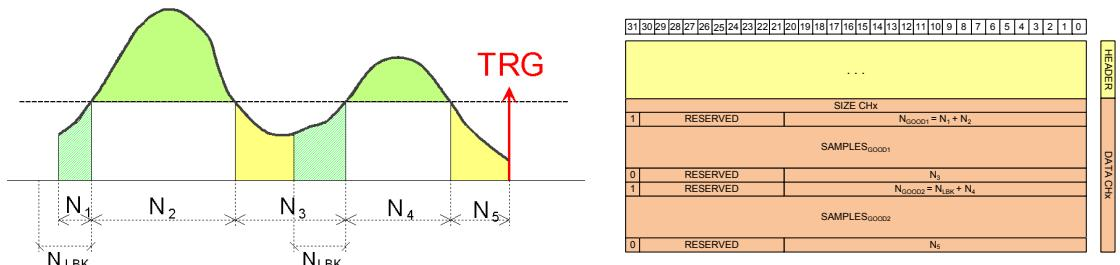

Fig. 8.11: Example with positive logic, N_{LBK} overlapping with N_1 , and $N_{LFWD} = 0$.
2. In some cases the number of data to be discarded can be smaller than N_{LBK} and N_{LFWD} : For example, consider the case where $N_1 \leq N_{LBK} < N_3$ and $N_{LFWD} = 0$ (positive logic) as reported in Fig. 8.11. The corresponding event format is reported on the right. All N_1 samples are tagged as good and acquired.